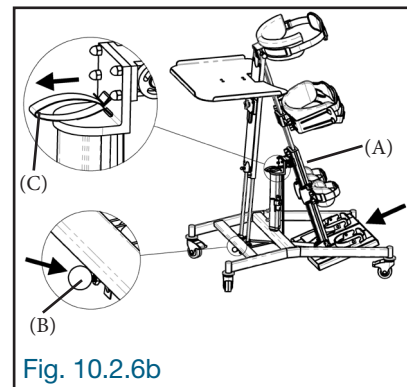

Fig. 10.2.6b
To return the device to the vertical position, apply slight pressure with the tip of the foot on the lever (B) or pull on the actuation strap (C), and push the frame (A) to return it to the vertical position. Release the pressure on the lever (B) once the frame (A) is in the vertical position (Fig. 10.2.6b).